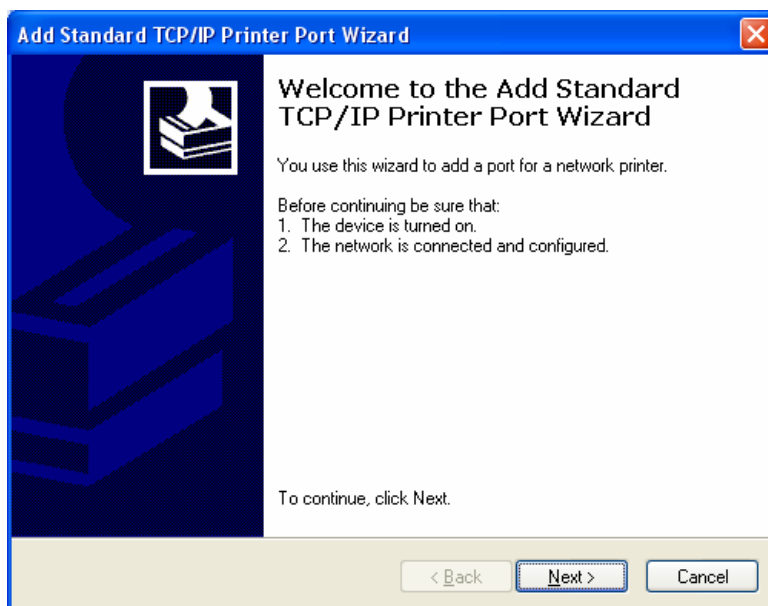

Figure 5.3.4 Add TCP/IP Printer Port
- Click "Next" Button (shown as figure 5.3.4)